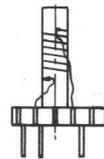

fig.2
- b) Single layer winding (see fig.2)